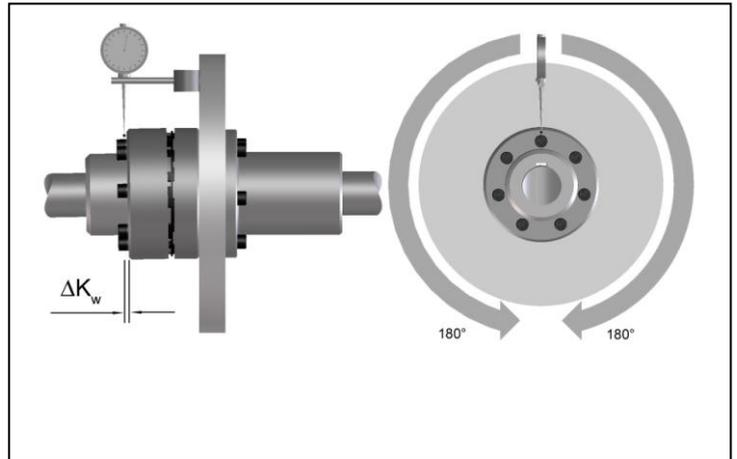

Fig. 6
- Measure on the face of the external diameter a complete rotation (360°). Determine in this case the greatest deviation ΔK_{w1} as well as the smallest deviation ΔK_{w2} (Fig. 6).